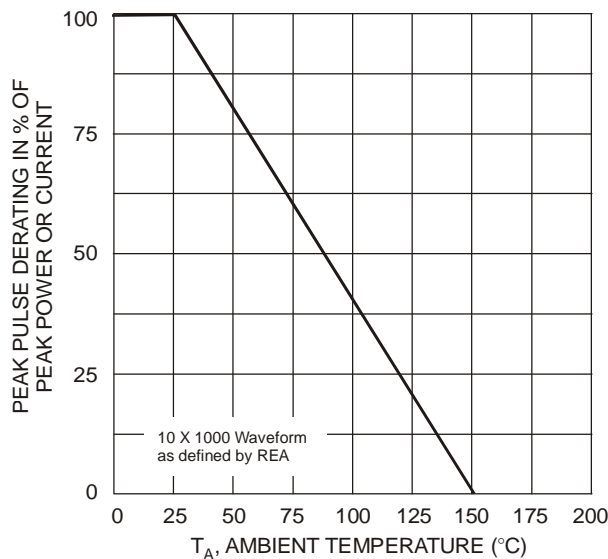
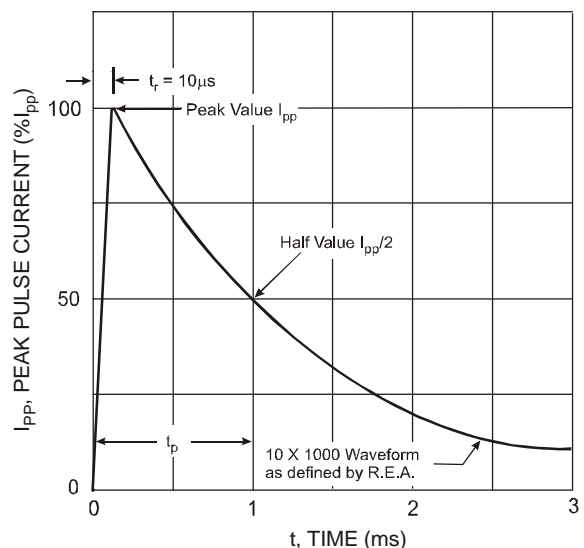

Fig. 1 Pulse Derating Curve
Fig. 2 Pulse Waveform
4. Non-repetitive current pulse per Figure 2 and derate above $T_A = 25^\circ\text{C}$ per Figure 1.